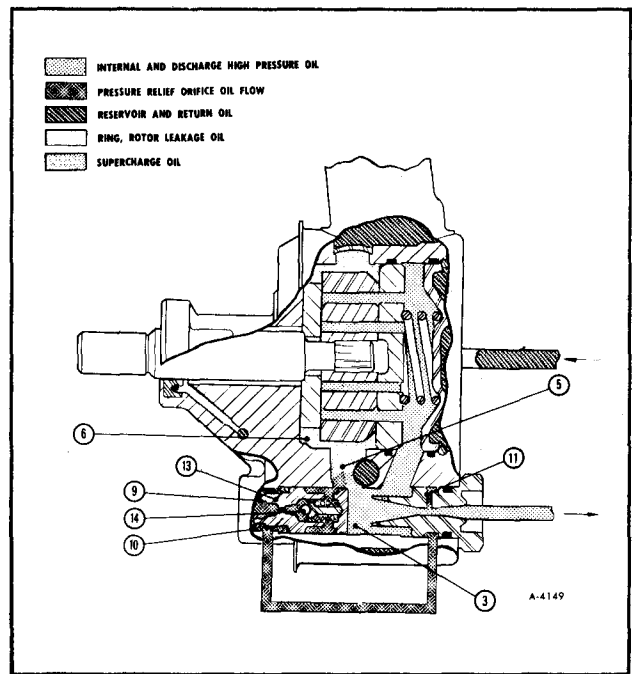

Figure 6—Pressure Relief
**Cornering Against Wheel Stops (Figure 6)**